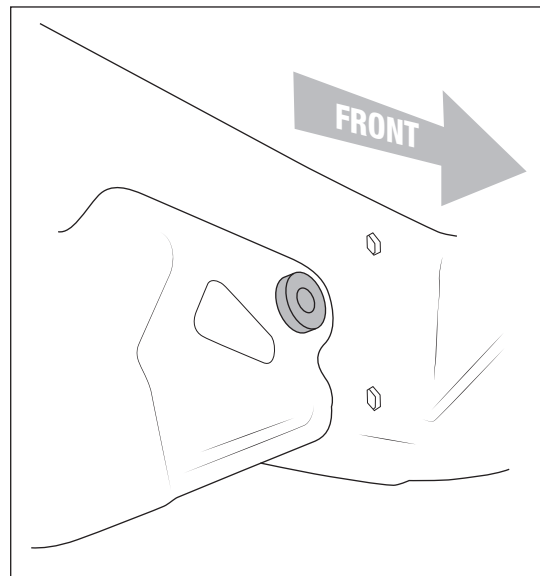

Figure 11
- E. Install the supplied spacer from outer side of the frame rail as shown (fig. 11). Make sure inner portion of the spacer passes through hole on the inside of framerail as well.
- I. Tighten and torque all hardware except the radius arm bushing through bolts (These will be tightened later at ride height). Refer to figures 11-A and 11-B for torque specifications.